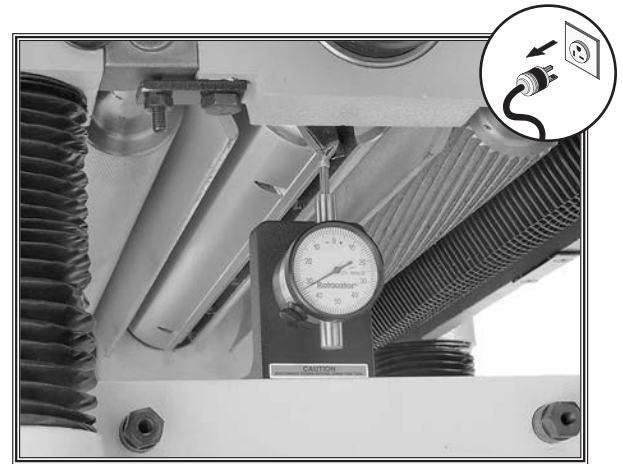

Figure 50. Example of using a Rotacator to find BDC.
5. Using your Rotacator, find bottom dead center (BDC) of any knife/insert edge by slowly rocking cutterhead pulley back and forth, then set Rotacator dial to "0" (see **Figure 50**).